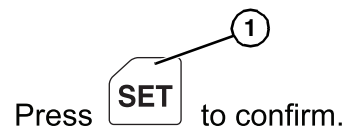

Figure 32
9. After the deceleration time has been changed, press SET (**Figure 32, item 1**) to confirm the new setting. The display will blink.